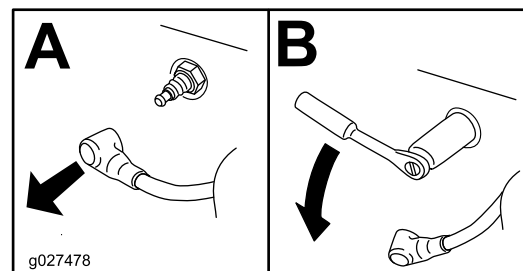

Figure 72
3. Remove the spark plug as shown in Figure 72.